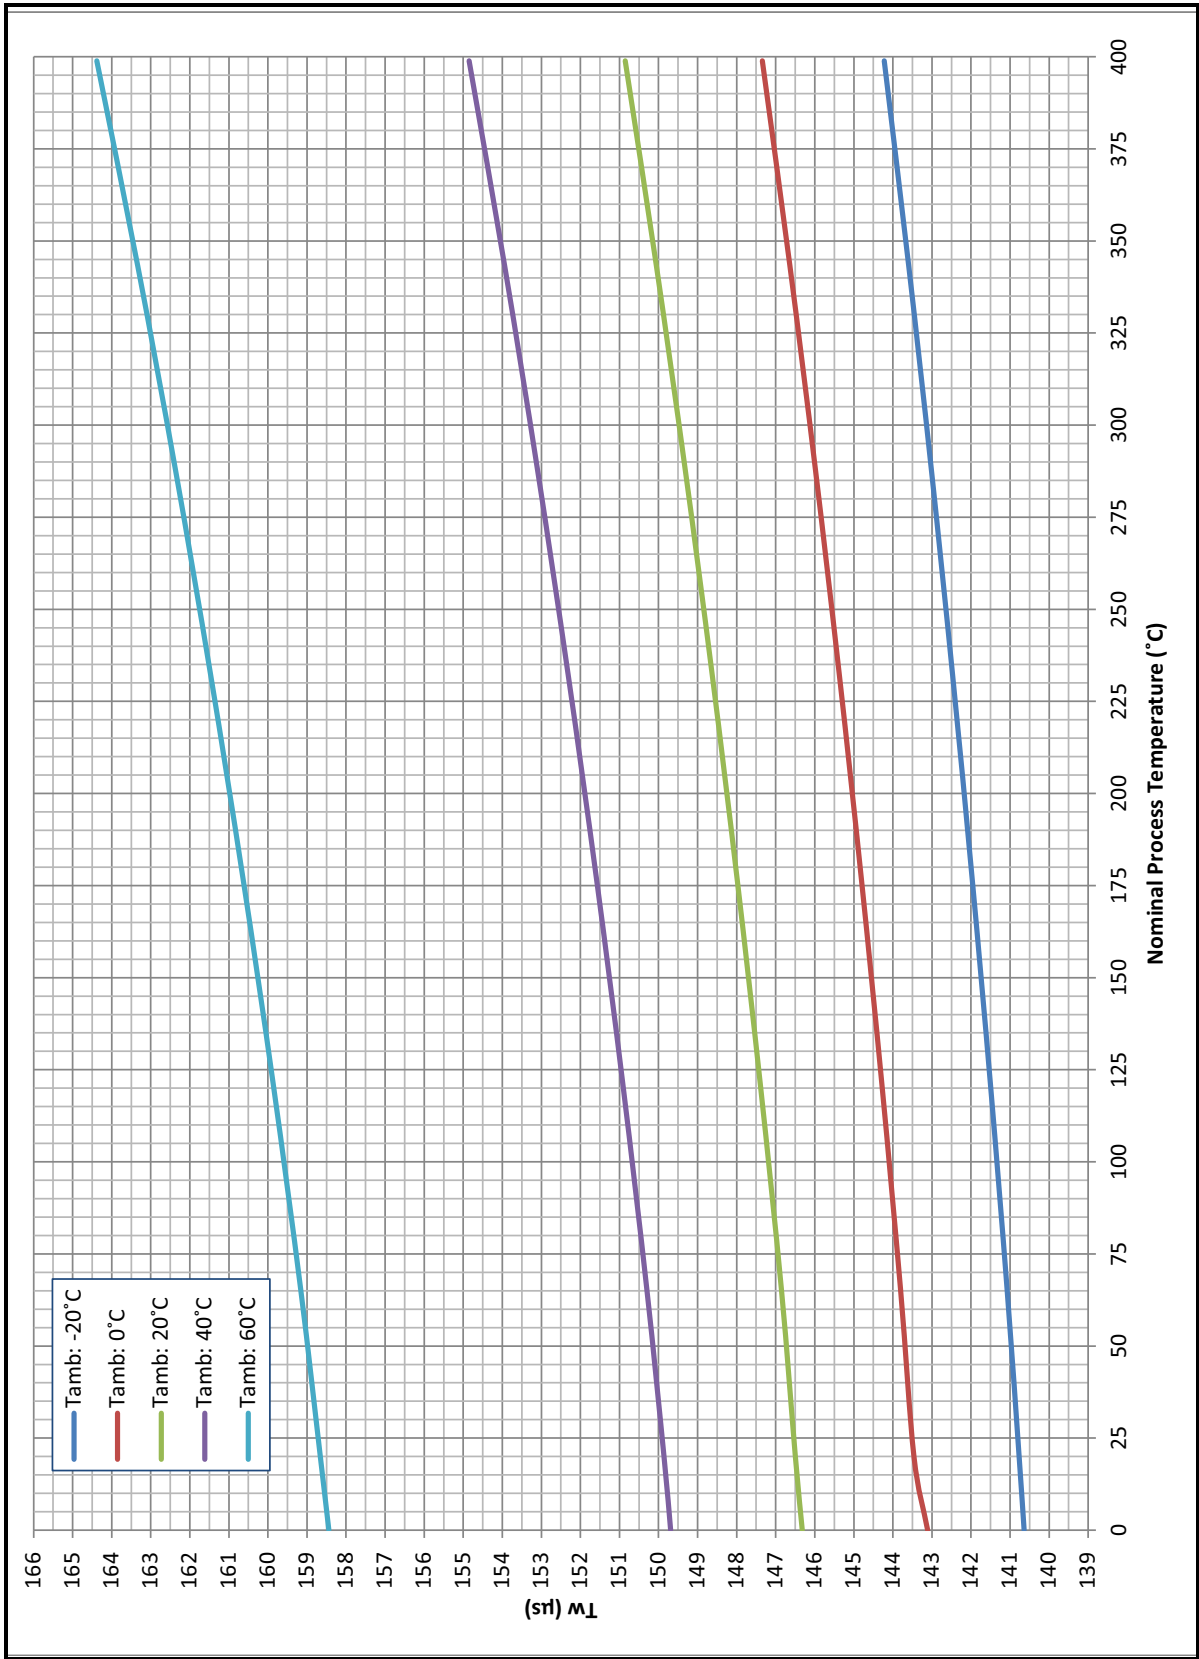
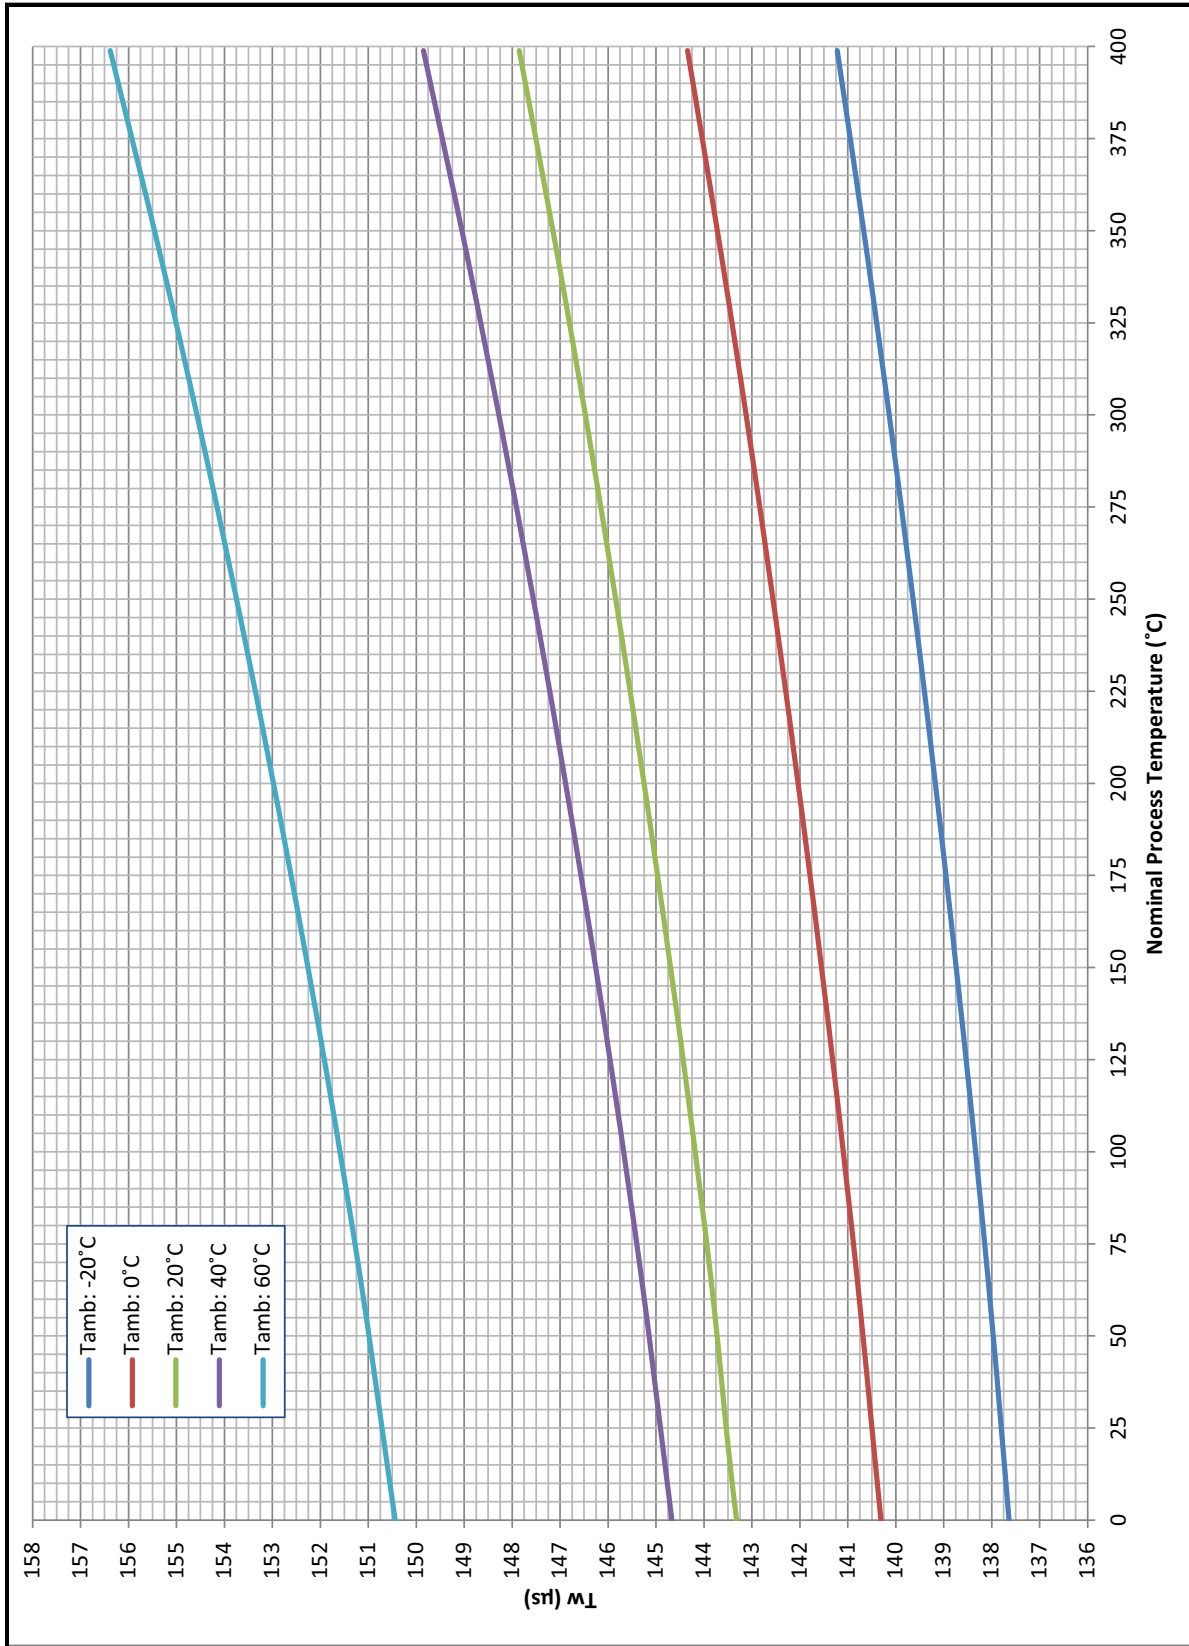

Figure 5: Graph #1:  $T_w$  (0.5 MHz Transducer)
Figure 6: Graph #2: Tw (1.0 MHz Transducer)
**Tw:** Tw (time in wedge) is determined by the transducer frequency, nominal process temperature, and ambient temperature using Graph #1 (Figure 5 on page 9) or Graph #2 (Figure 6 on page 10) based on the transducer frequency. As an example: